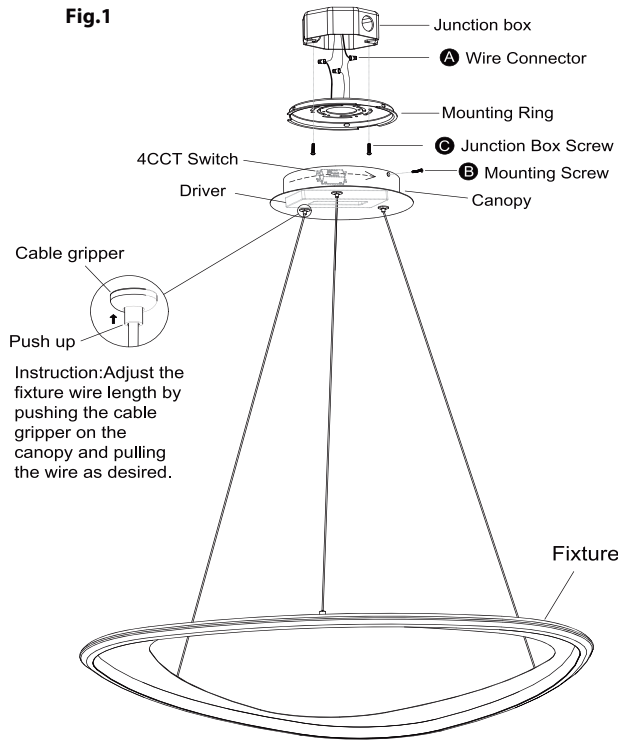

Fig.2 Wiring
CONNECTING THE WIRES (Fig. 2/Fig. 3/Fig. 4)
7. Connect the driver's input wires to junction box wires as shown (Fig. 2/Fig. 4/). Make sure that all wire connectors (A) are secured. If your outlet box has a green or bare copper ground wire, connect the fixture's ground wire to it. Otherwise, connect the fixture's ground wire directly to the back plate using the green screw provided. After wires are connected, tuck them carefully inside the junction box.